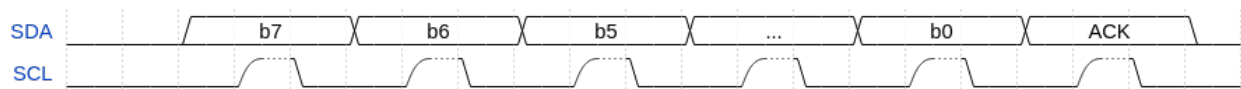

Figure 3: I2C read byte
If the read/write bit of the transaction start is 1 then the master will execute a sequence of reads. Each read consists of the master driving the clock whilst the slave drives the data for 8-bits (most significant bit first). At the end of each byte, the master drives another clock pulse and will either drive either an ACK (0) or NACK (1) signal on the data line. When the master drives a NACK signal, the sequence of reads is complete. A read byte sequence is show in Figure 3